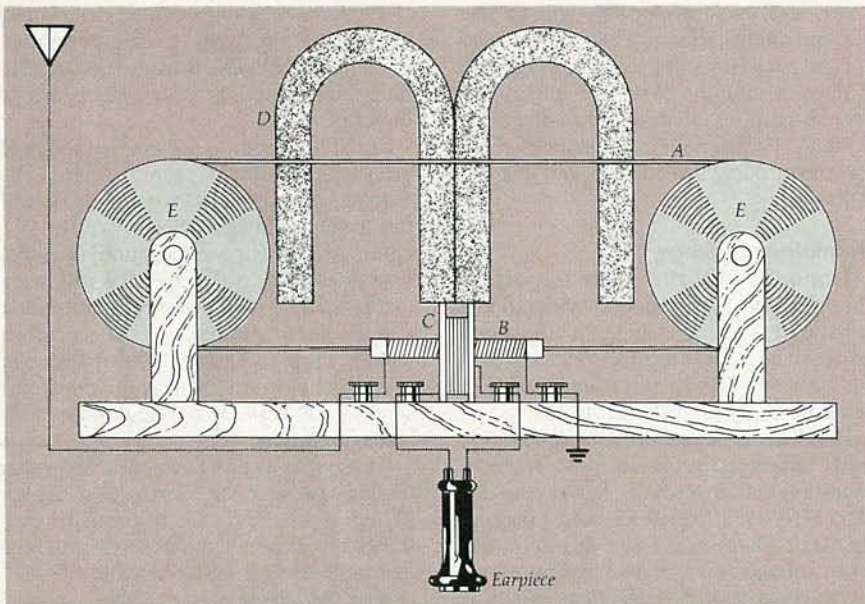

FIG. 7—MARCONI'S MAGNETIC DETECTOR used electromagnetic induction to produce an audible signal in the earpiece.
Marconi, with the assistance of Lodge and Dr. John Ambrose Fleming, also developed the electromagnetic detector shown in Fig. 7. That detector consisted of a moving band of iron wire (A) mounted on a pair of wheels (E). The band passed through a coil (B) that was connected to the antenna. As a section of the band passed through a pair of permanent magnets (D), it was magnetized. When that section later passed through coil B, a magnetic field that varied with the signal applied to the coil via the antenna was created. That field was electromagnetically coupled to coil C, which was connected to a telephone receiver. In many ways, Marconi's detector resembled the wire recorder, which would not be developed until over four decades later.